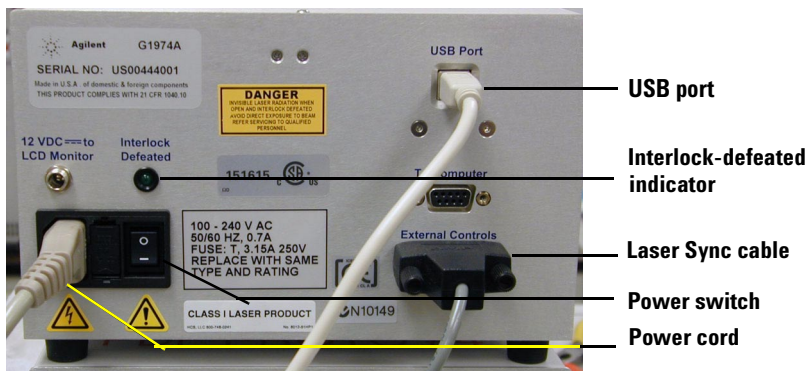

Figure 36 Rear panel of the Control Unit
- b Connect one end of the USB cable of the **Target Stage/Laser Control Box** to the port labeled **USB**. Please use Figure 36 for a reference picture.